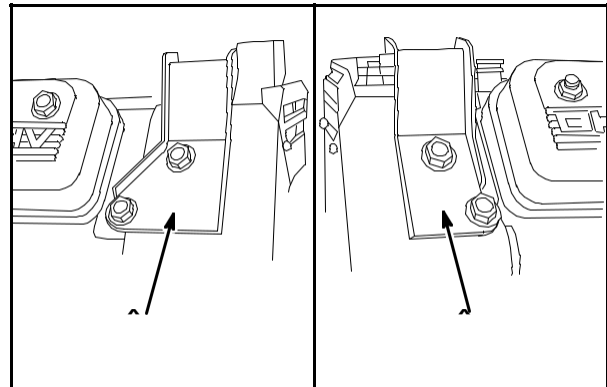

Fig. 4
9. If necessary remove 4 screws and 2 flywheel side fuel tank base supports (8), **Fig. 4.**
Install 2 flywheel side fuel tank base supports (8), **Fig. 4.** Torque screws to **140 in. lbs. (16 Nm).**